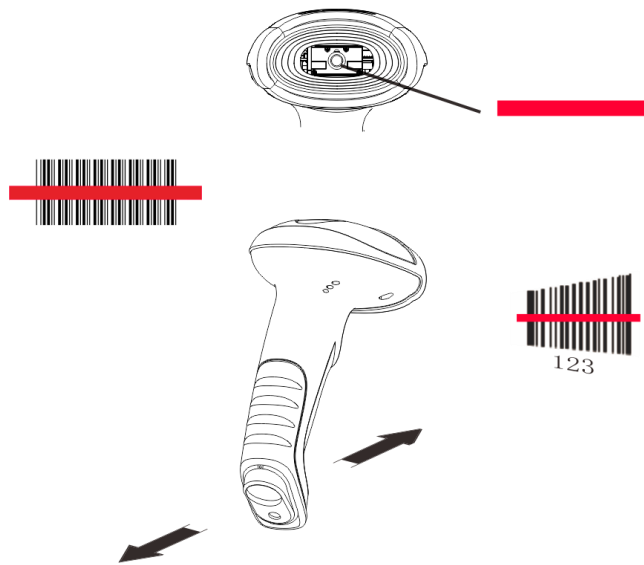

Fig. 1-12
2. Aim the red beam across the center of barcode, as shown in Fig.1-12.